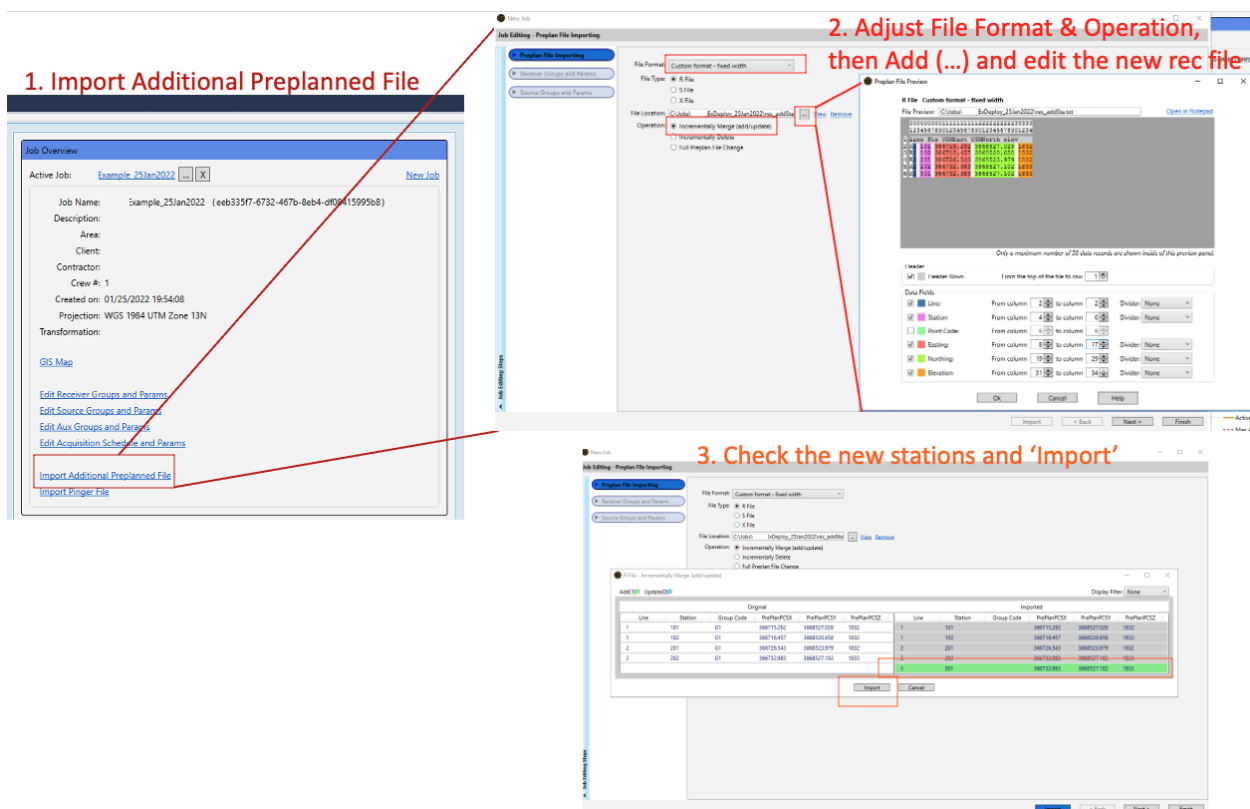

Figure 4-3 Overview detailing how to import an additional preplan receiver file to resolve Unreconciled stations.
3.3 From the HarvestManagement Console in the Job Overview section, select 'Import Additional Preplanned File,' as shown in Figure 4-3.
Edit the **Preplan File Importing settings** (see Fig 4-3):
- Add the new receiver File Location using the '...' button and adjust the header and columns (see Fig 4-3). Hit 'Ok.'
- Select Import and check things look correct in the pop-up 'Incrementally Merge' window (see Fig 4-3); if they are correct, hit 'Import.' Hit 'Next' to proceed.